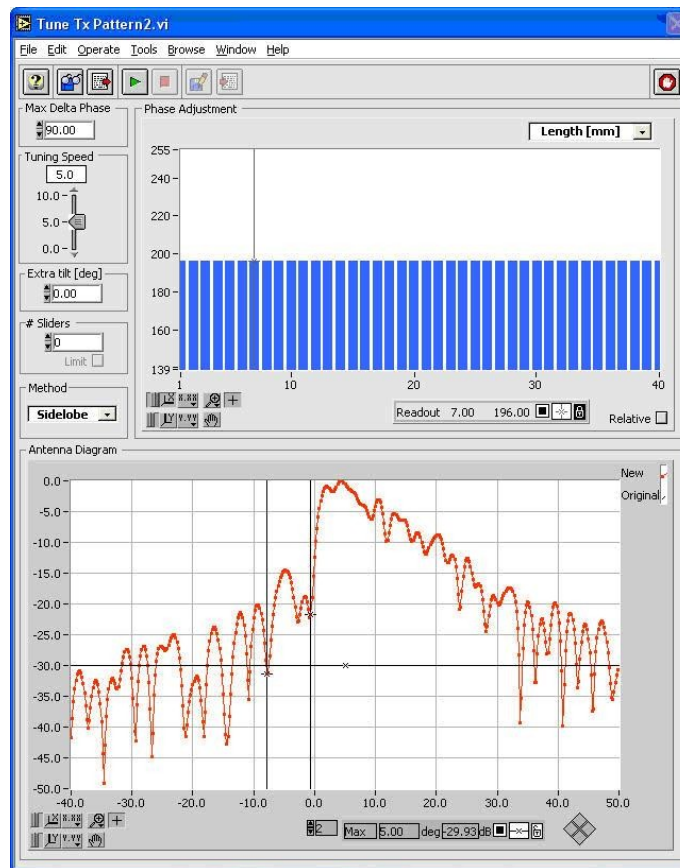

Figure 42: Tune Tx Pattern software
- It is now necessary to select the region and suppression of the sidelobes as required. The two vertical cursors in the **Antenna Diagram** graph allow to select the elevation part for which the sidelobes need to be reduced (as shown in figure 42). The horizontal cursor allows to select the maximum sidelobe level allowed.